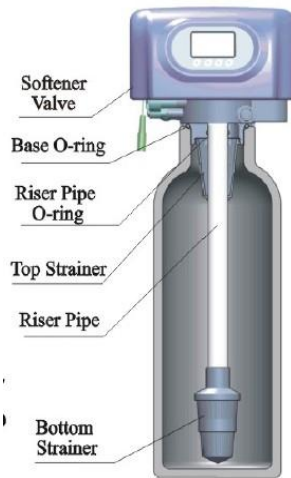

Figure1-1
a. As the Figure 1-1 shows, select the riser pipe with 26.7 mm OD, glue the riser pipe to the bottom strainer and put it into the resin tank, cut off the exceeding tube out of tank top opening. Plug the riser tube in case of mineral entering.